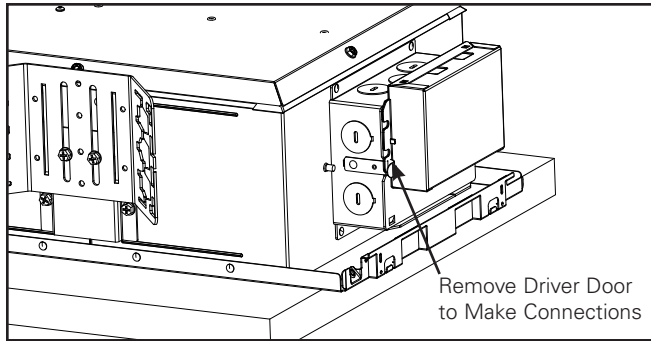

Figure 4a.
1. Remove outer JBOX door. Connect supply leads and appropriate dimming/ controls leads as specified in the wiring diagrams and in accordance with your local electrical code(s) or N.E.C. (see Figure 4a).